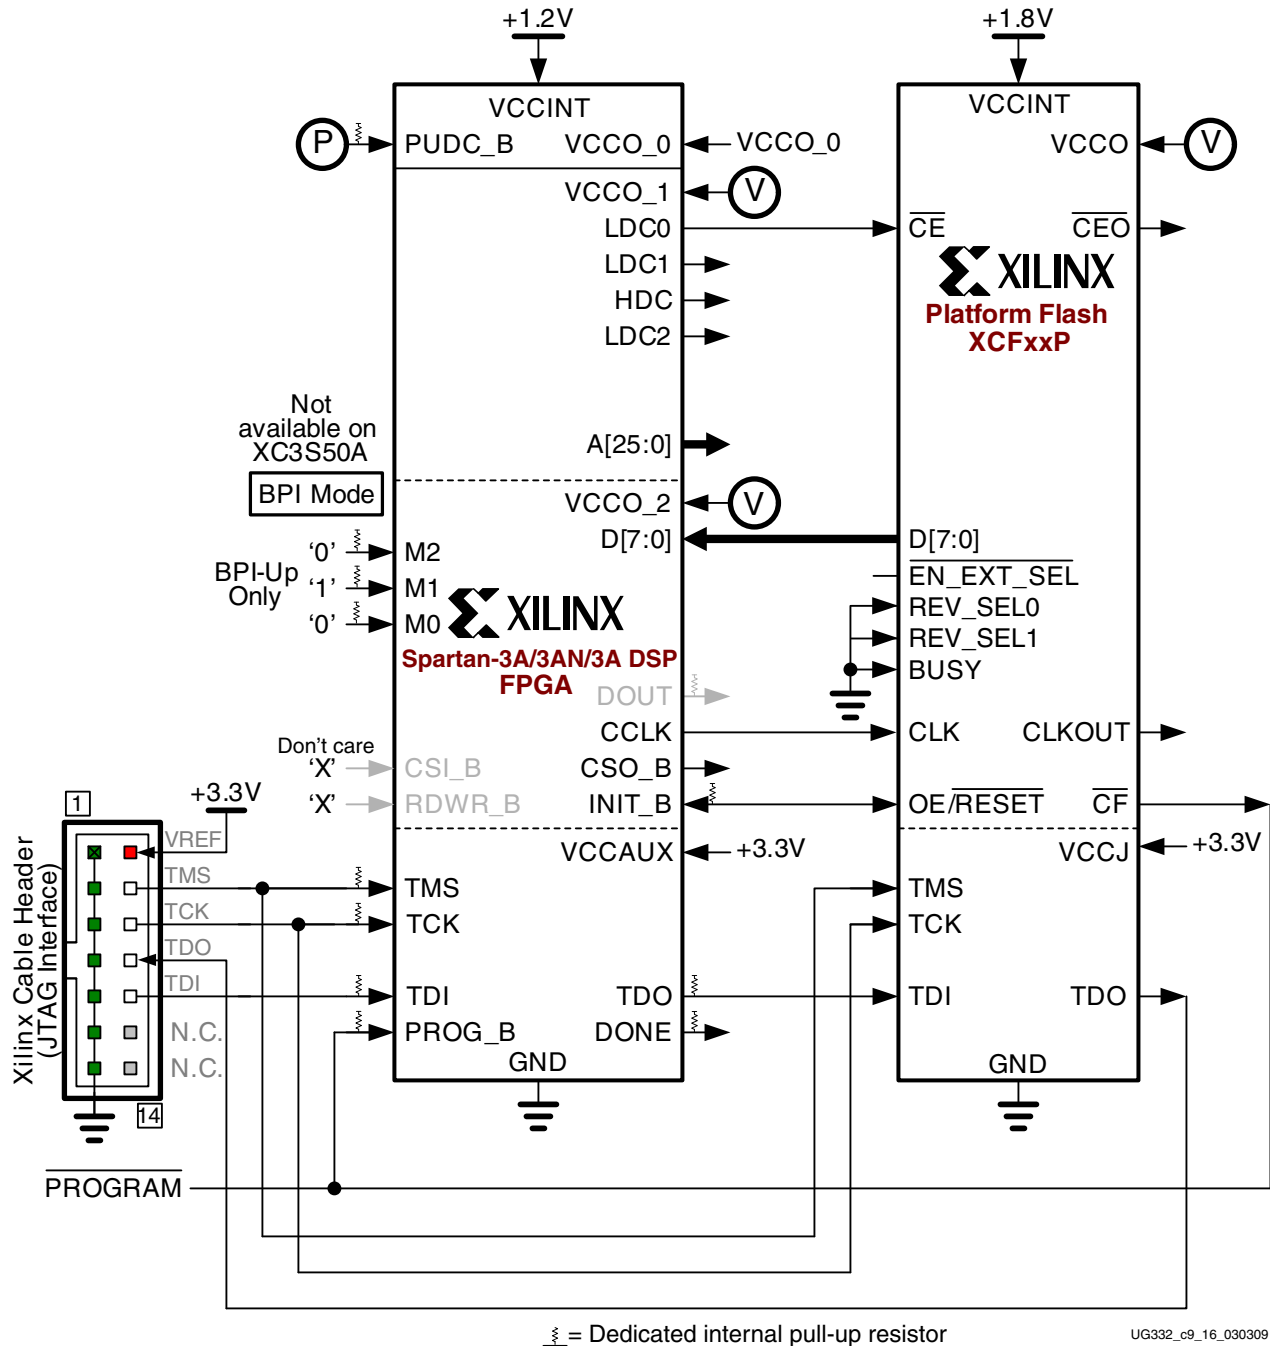

Figure 5-6: Master BPI Mode Using Xilinx Parallel Platform Flash PROMs (XCFxxP)
The Master BPI mode also supports the Xilinx Parallel Platform Flash PROM (XCFxxP) family, as shown in Figure 5-6.
- The diagram in Figure 5-6 shows an Extended Spartan-3A family FPGA, but the same approach also works with Spartan-3E FPGAs.